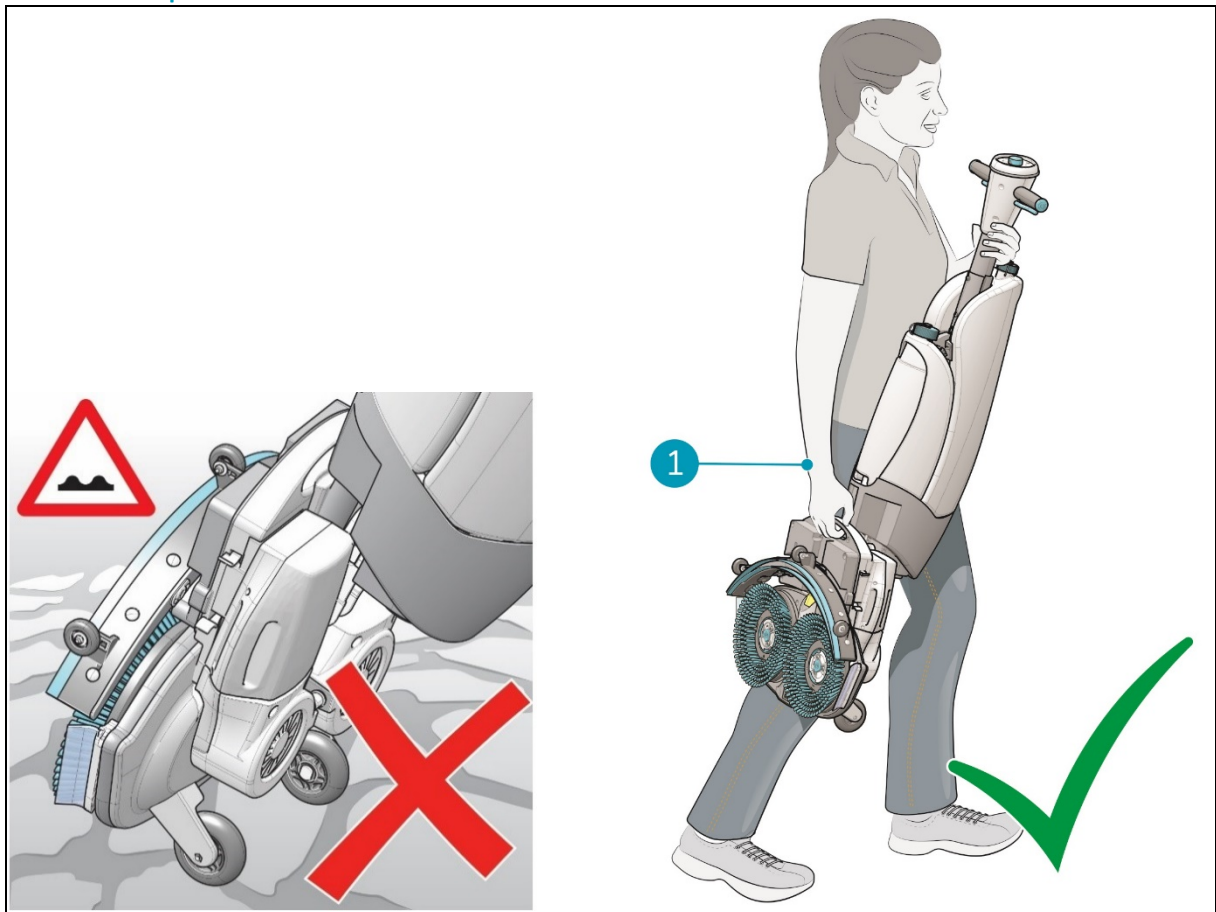

Figure 6
2. Carry the i-mop XL pro with one hand while holding the handle (Figure 6, pos 1) with your other hand.